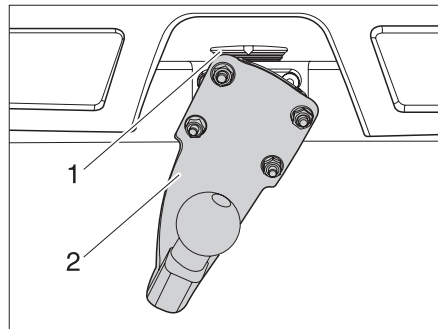

Fig. 3 Tow coupling
- ▶ Set the tow coupling (Fig. 3,2) at an angle of 90° to the latch (Fig. 3,1).
- ▶ Swivel the tow coupling (Fig. 3,2) downwards until the latch (Fig. 3,1) latches in.
- ▶ Press the locking mechanism (Fig. 3,1) upwards.
- ▶ Swivel the tow coupling (Fig. 3,2) 90° to the left.
- ▶ Release the latch (Fig. 3,1).
- ▶ Remove the tow coupling (Fig. 3,2)